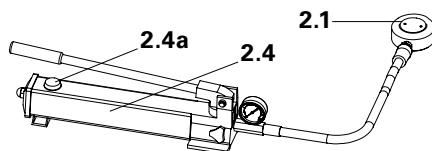

Fig. 10
4. Close vent and filler cap on the oil tank of the hand pump. (Fig. 10)